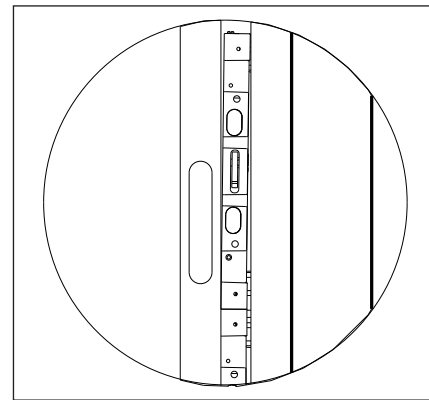

Figure 13: Verify Flatness
- Verify flatness by laying a 4' level across the face to ensure the combined face of both panels is straight and flat. Check both ends of the panel. Refer to **Figure 13**.